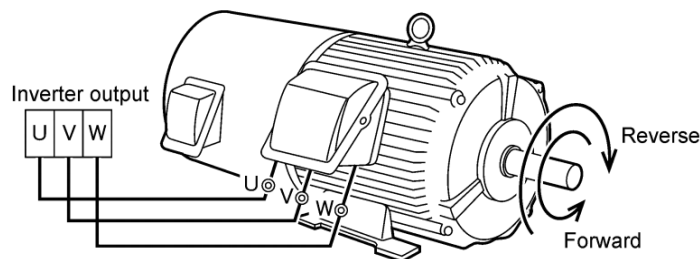

Figure 2: Forward/reverse direction of motor/encoder
- In motor/encoder forward direction (**FWD** command, see Figure 2) the pulse count should be always positive
- In motor/encoder reverse direction (**REV** command, see Figure 2) the pulse count should always be negative